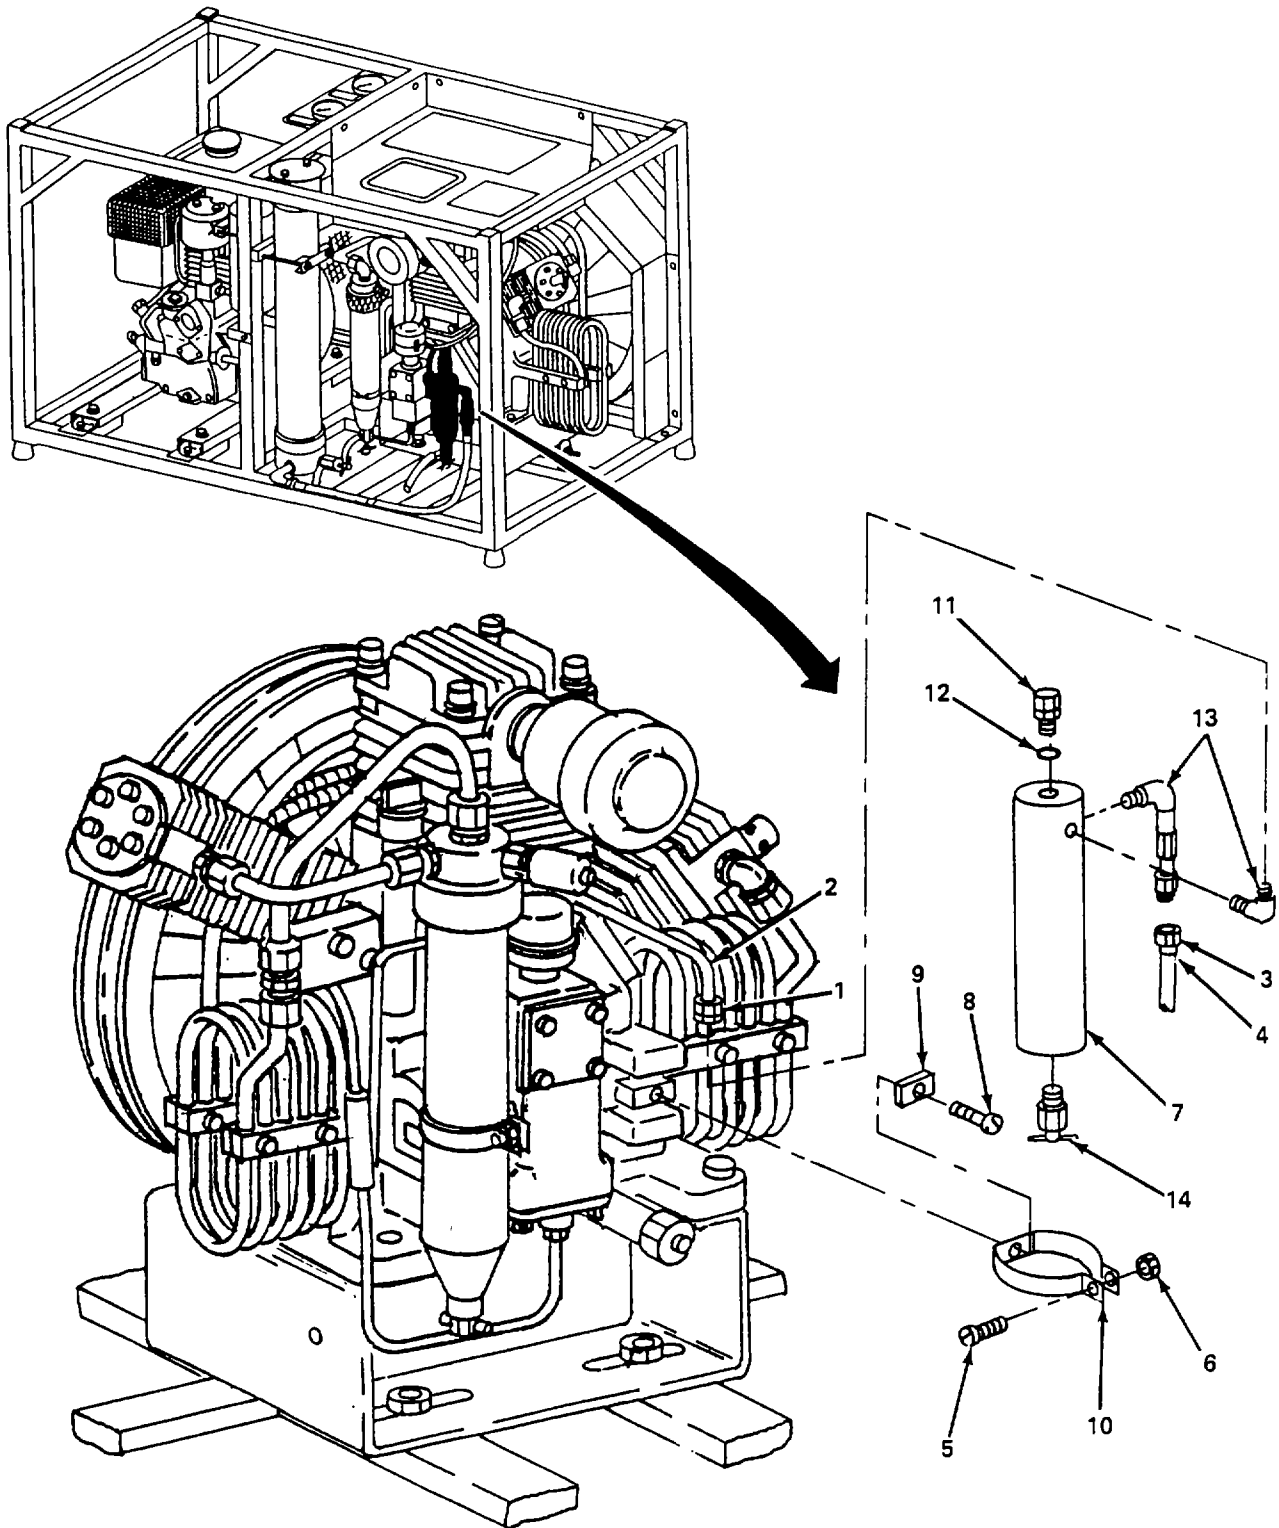

Figure 5-11. Final Separator Assembly, Replace.
- a. Replace. (figure 5-11)
- (1) Loosen two connector nuts (1) and remove inlet line (2).
- (2) Loosen connector nut (3) and disconnect outlet line (4).
- (3) Loosen bolt (5) and nut (6) and remove separator (7).
- (4) Remove bolt (8), plate (9), and clamp (10).
- (5) Remove safety valve (11) and seal (12).
- (6) Remove two elbows (13) and drain valve (14).
- (7) Install drain valve (14) and two elbows (13).